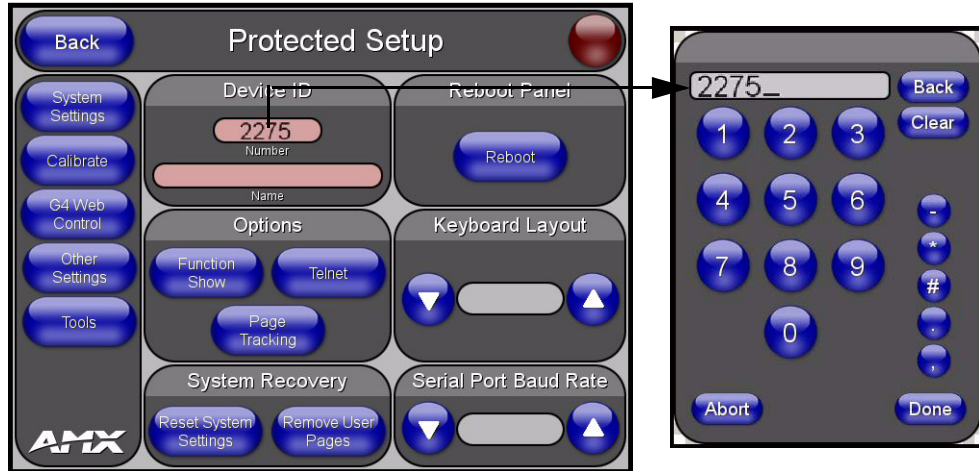

FIG. 23 Protected Setup page with Keypad
4. Press the red **Device Number** field to open the Device Number keypad (FIG. 23).